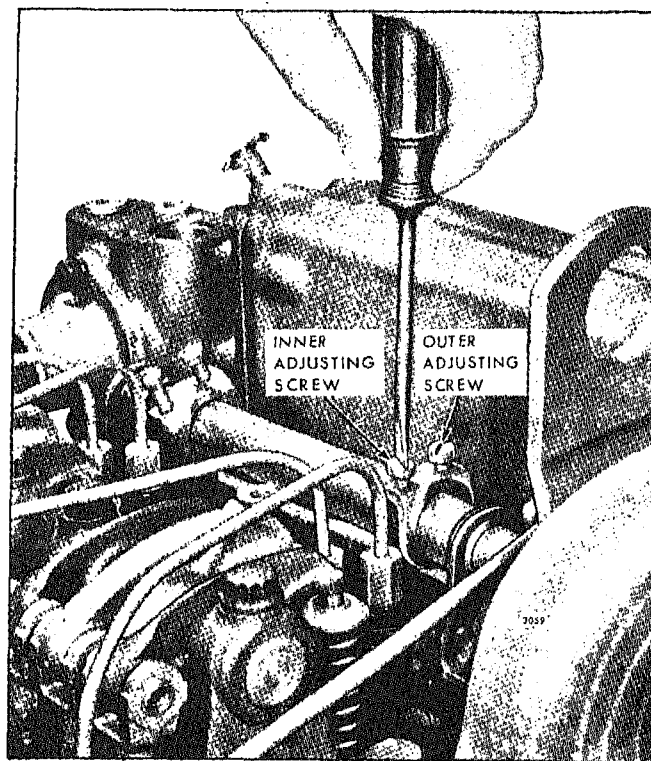

Fig. 2 - Adjusting Height of Rack Control Lever Adjusting Screws
1. Adjust the inner and outer adjusting screws (Fig. 2) on the rear injector rack control lever until both screws are equal in height and tight on the control tube. Check the clearance between the fuel rod and the cylinder head casting (below the bolt) for at least 1/16" clearance when the injector rack is in the *full-fuel* position and the rack adjusting screws are tight. If the fuel rod contacts the bolt or cylinder head casting, readjust the screws to obtain the 1/16" clearance.